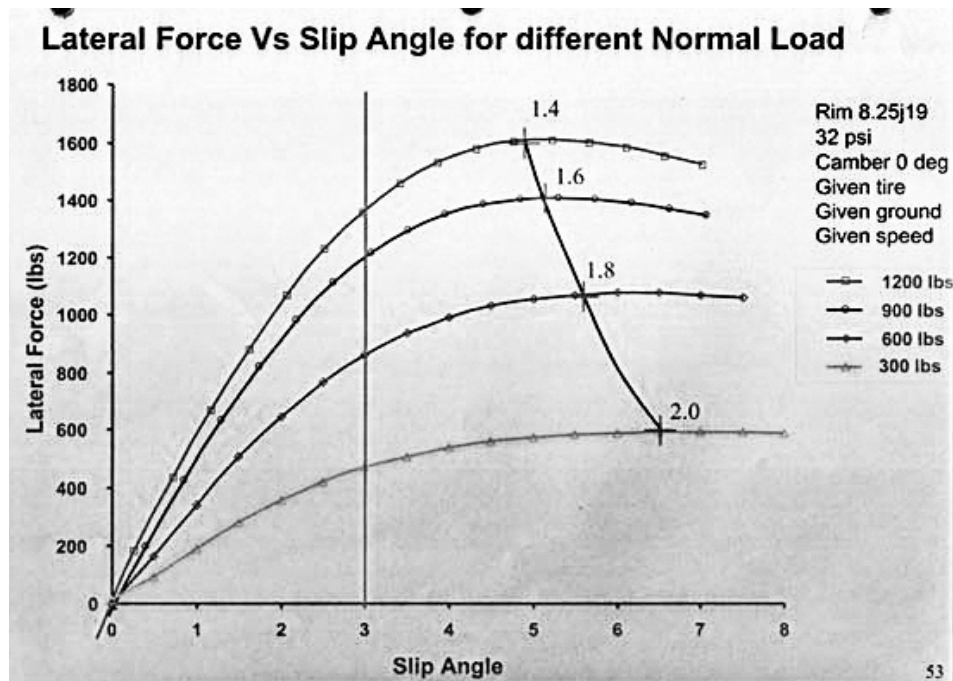

Figure 3
Figure 3 is an example graph of Lateral Force vs Slip Angle from Claude Rouelle's race car engineering seminar. If we are going to get a handle on how toe angles work, tyre data like this helps. As cornering force builds on the tyre, the slip angle is increasing quickly. The slope of this part of the curve, the "tyre stiffness", is a measure of the responsiveness of the tyre to steering inputs. When maximum cornering force is reached the curve flattens out. If the driver is easy on the tyres he will drive in this area of the curve. If the driver stresses the tyres more, he uses higher slip angles, with similar cornering force (lateral force, grip), but with the possibility of overheating the tyres. The graph also shows the affect of changing load on the tyre. The 300lb blue curve might represent the inside tyre. It has a high co-efficient of friction, 2. Thus maximum lateral force is 2 times vertical load. The 900lb curve might represent the more heavily loaded outside tyre. The co-efficient of friction is less at 1.6 and therefore the maximum lateral force is only 1.6 times vertical load.
- As the tyre traverses the corner, any change in tyre loading due to driver input or road surface will result in toe changes (due to the slip angle changes). These changes are additional to any Ackerman and bump steer resulting from the steering and suspension geometry. The interdependence of slip angle with all the variables is hard to visualise. But fortunately, it seems we do have a large window where the inside tyre grip will be OK. The tyre in Fig 3 shows pretty constant grip level when lightly loaded between 4 and 8 degrees, indicating the inside tyre particularly, can handle a lot of slip angle variation, and still offer near maximum grip. This means that mid corner, even though the toe angles might be pretty wild, we can have near maximum inside grip. Looking at the toe and slip angles, it appears as if we might be dragging the inside tyre, but not so while we maintain near maximum grip.
- In using Ackerman steering we hope to be able to influence the slip angle on the inside tyre to our advantage. There will be a range of slip angles where the inside tyre will be producing near maximum grip (Figure 3). So we have a degree of flexibility in how much Ackerman we use.